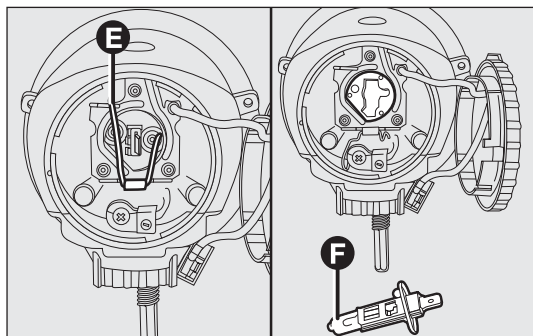

fig. 151
- ☐ release the clip E-fig. 151 and remove the bulb F;